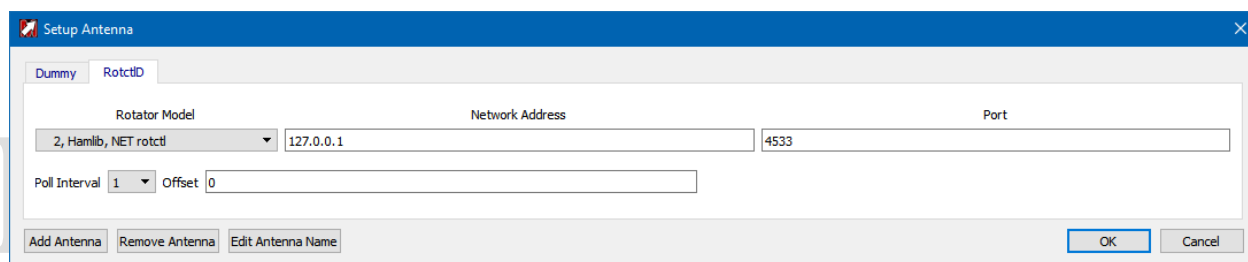

Figure 96 – Defining rotctld connection to Rotator
**Rotator sharing** is only done via manually configuring rotctld (Figure 96) and has not been tested. Volunteers wanted!